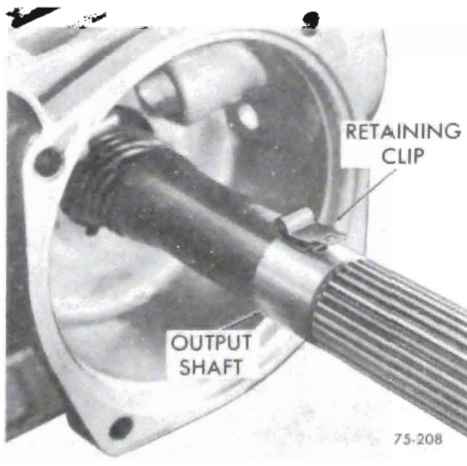

Figure 75-270
1. Place speedometer drive gear retaining clip into hole in output shaft. See Figure 75-270.